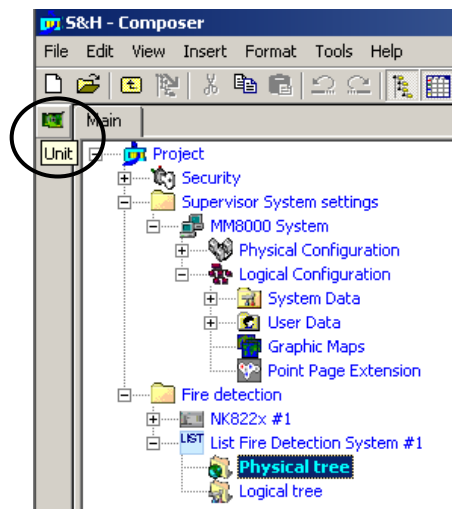

Fig. 13 Adding Unit objects in the Physical Tree
3. Click the **Unit** icon (Fig. 13) to add as many units as required by your configuration.